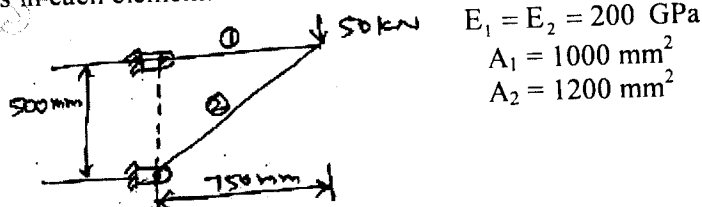

Fig. Q6 (b)
b. A truss shown in Fig. Q6 (b), is made of 2 bars, determine